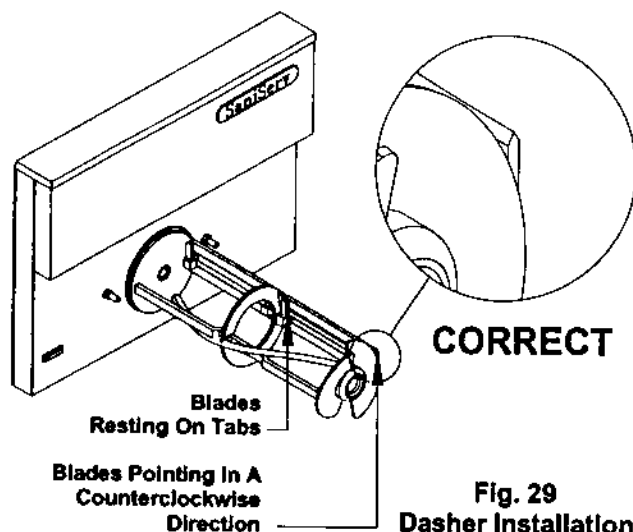
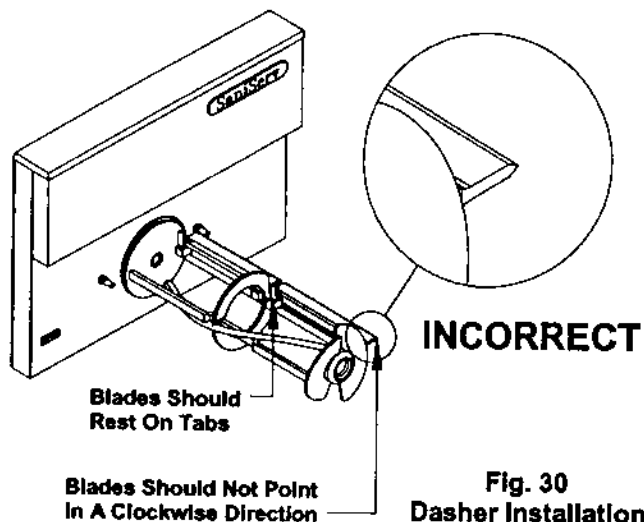

Fig. 29
Fig. 30
- g. Insert the dasher assembly into the freezing cylinder as far as possible (Fig. 29) being careful not to damage the scraper blades. Damage will occur to the scraper blades and the dispenser will not operate properly if the scraper blades are installed facing in a clockwise direction (Fig. 30).
Note: The stator rod has been deleted from Fig. 29 and Fig. 30 for clarity only. The stator rod must be installed for proper machine operation.